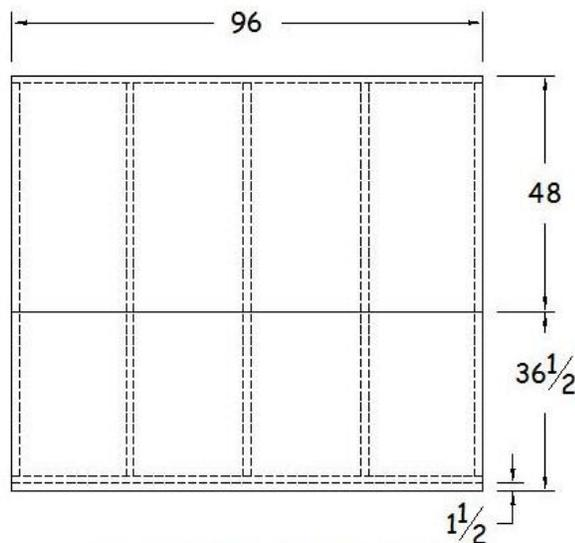

Figure 22-7. Side Wall Sheathing – Two Req'd.
- c. Cut two additional pieces of 1/2" OSB approximately 36 1/2" x 96", to fit below the upper section of OSB. These pieces should fit flush to the upper OSB pieces and overhang the bottom plate by 1 1/2". Nail into all studs and the bottom plate with 8d nails every 6". See Figure 22-7.